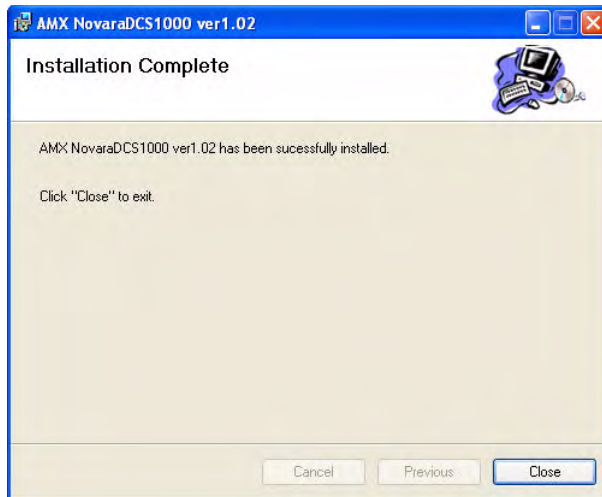

FIG. 15 Installation Complete dialog
5. In the *Installation Complete* dialog, click **Close** to finish (FIG. 15).